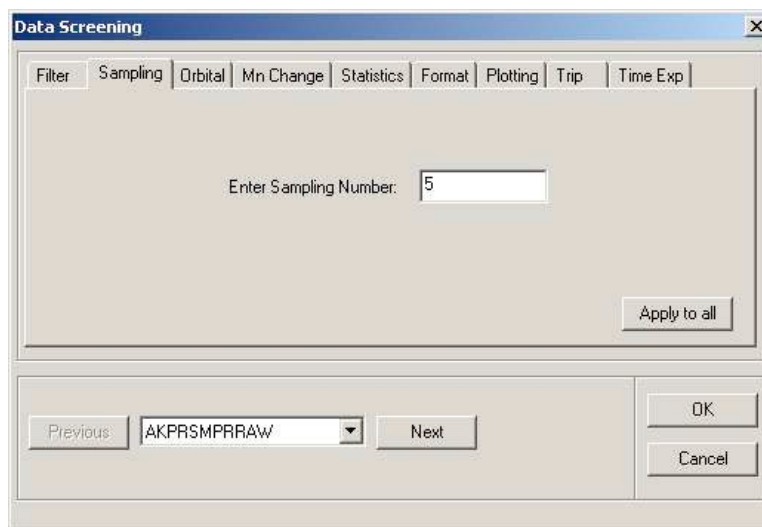

Figure 71: Data Screening Sampling Selection
- Select the “Sampling” tab from the Data Screening window (*see Figure 71*).